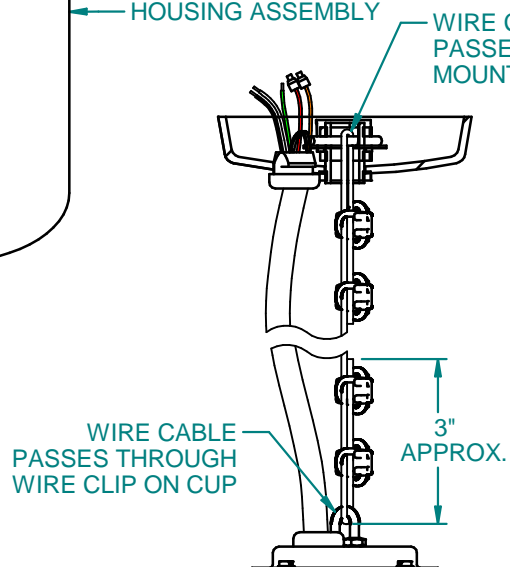

Fig. 13
2. Pass wire cable through mounting strap and Wire clip on the fixture and tighten it with (4) wire clips as shown in fig.13